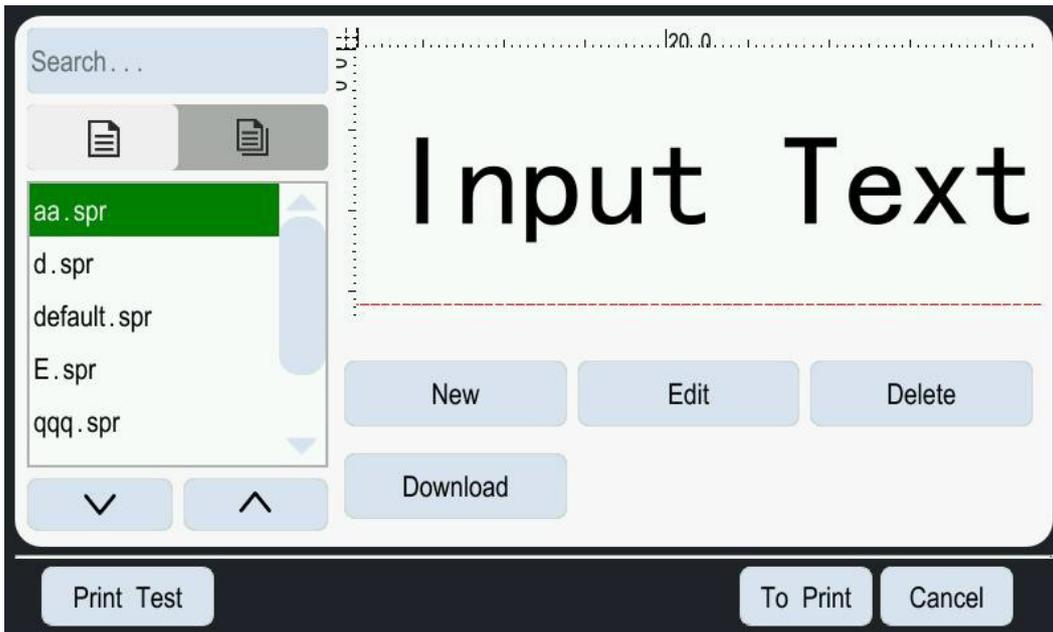

Figure 5-14: Load File Interface
1. Click the File Management button  on the main interface. The system enters the file loading interface, as shown in Figure 5-14.